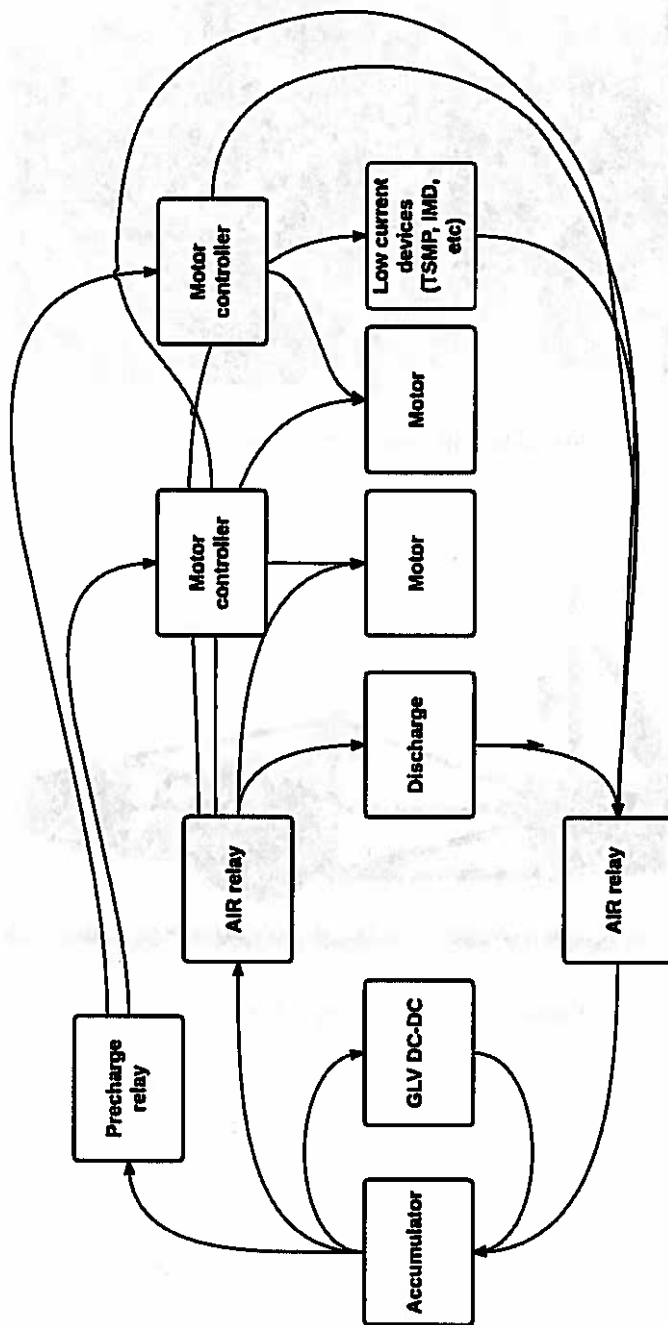

Figure 1: Tractive System Block Diagram
- *Figure 1 – an electrical system block diagram showing all major parts associated with the tractive-system. (Not detailed wiring).*